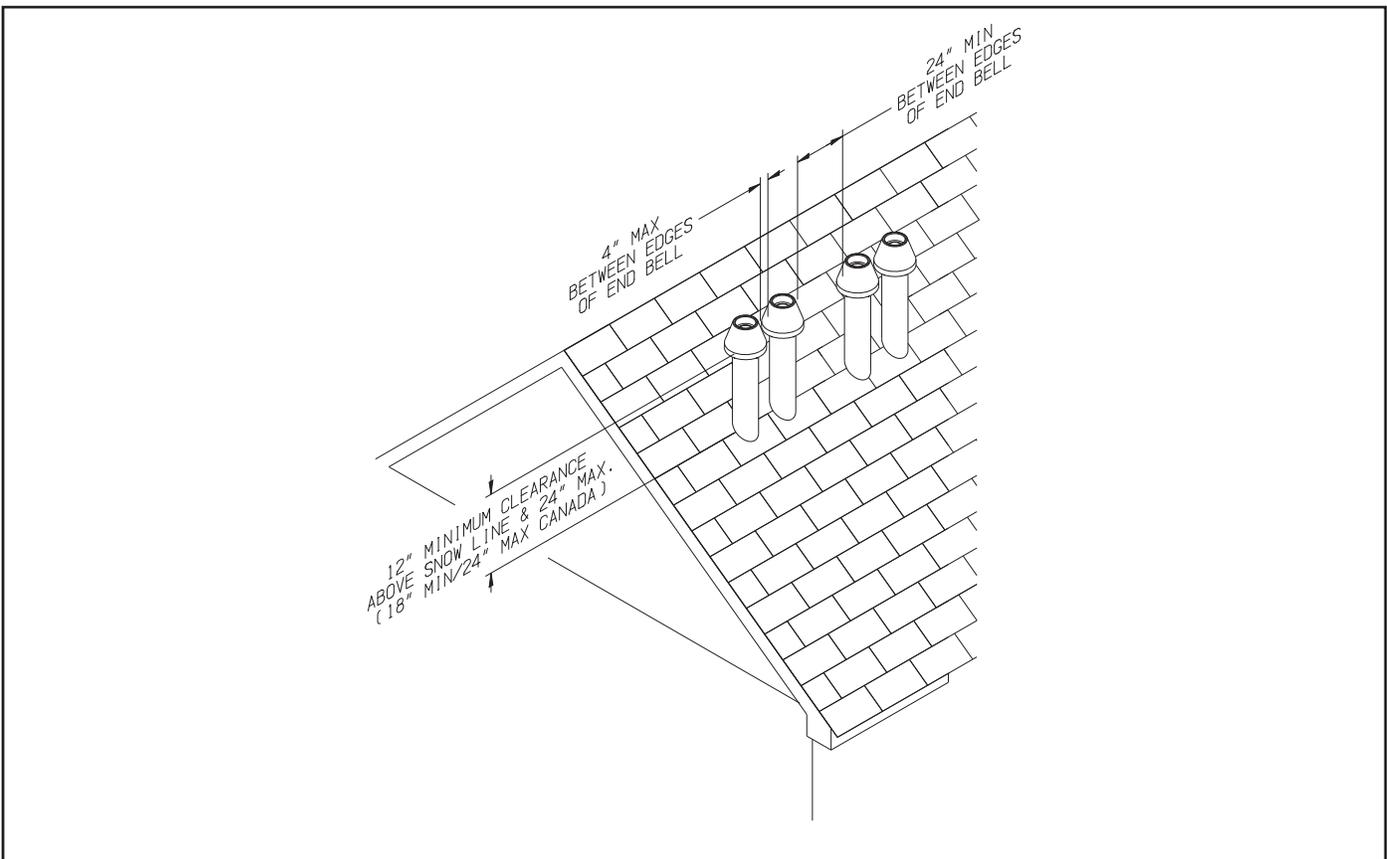

FIGURE 2.6: MULTIPLE BOILER VERTICAL VENTING WITH CONCENTRIC VENT TERMINALS
- Vertical IpeX, Diversitech, or Duravent PPs Concentric Terminals (Figure 2.6) – At their closest point adjacent “bells” must either be within 4” of each other OR greater than 24” apart as shown in Figure 2.6.